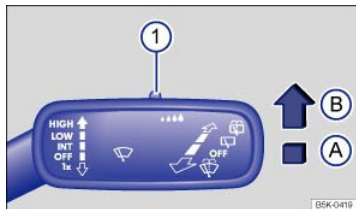

Fig. 93 Windshield wiper lever: Adjusting the rain sensor ① (if equipped).
When switched on, the rain sensor automatically shortens or lengthens the time between wiping intervals depending on how hard it is raining ⇒ . The rain sensor's sensitivity can be adjusted manually ⇒ Fig. 93①.
Push the lever into the desired position ⇒ Fig. 93 :